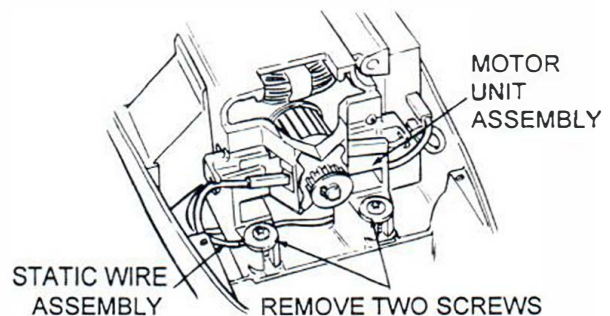

Figure 22. Motor Unit Assembly Removal (Top)
- B. *See Figure 22.* Turn the power unit over and remove the two screws from rear of motor unit assembly. (See CAUTION at end of this section).